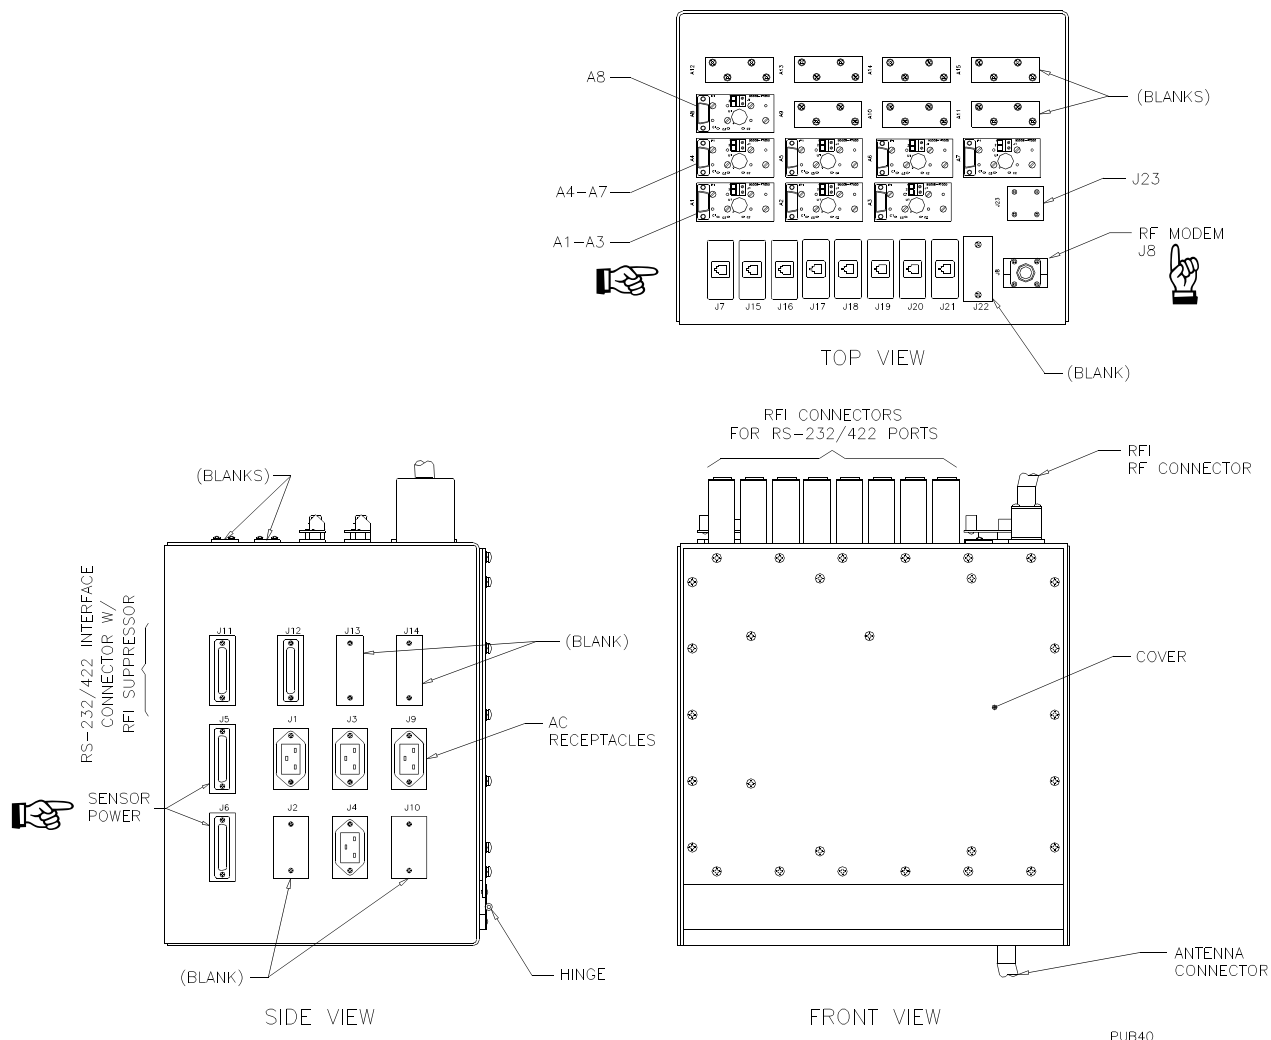

Figure 14.1.6. Faraday Box A3, Panel Views
14.1.8.2 Faraday Box 7A1A3 Description. The Faraday box is located in the lower right corner of the cabinet, beneath the circuit breaker panel. All SCA external signal and power lines pass through flex conduits in the bottom of the Faraday Box to prevent rain water from entering the cabinet. Fiber optic cables that enter the Faraday Box connect to fiber optic modems located on the top of the Faraday box. The Faraday box also contains two columns of track-mounted terminal blocks on the back side of the hinged front cover that terminate external power and signal lines. The Faraday box has an internal cable assembly that connects the terminals to connectors mounted on the top or left side surfaces of the box as shown on figure 14.1.6. Mating connectors are part of SCA wiring harness 7A1W106. Dependent upon the site specific SCA equipment configuration, blank cover plates are used in place of connectors not used by the SCA.